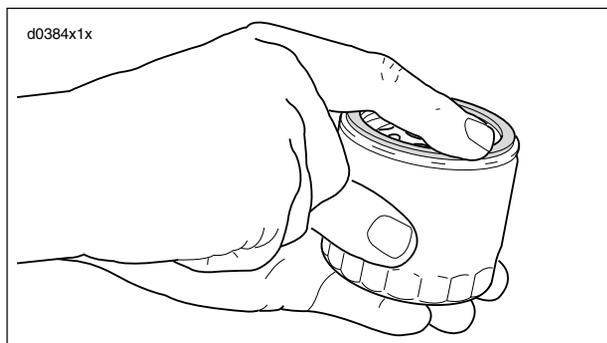

Figure 1-17. Lubing New Oil Filter
5. See Figure 1-17. Lube the gasket on **new** oil filter with engine oil and install **new** filter. Hand tighten oil filter 2/3 to 1 turn after gasket contacts filter mounting surface.